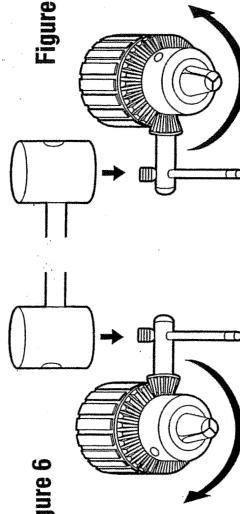

Figure 7
6. Place key in chuck as shown in Figure 7.
7. Using a wooden mallet or similar object, strike key sharply in a counter-clockwise direction. This will loosen chuck so that it can be unscrewed by hand (Figure 7).